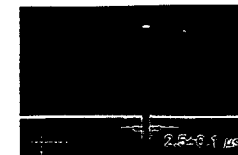

Fig. 3-4
- (1) Connect an oscilloscope to TP-1 on BC BOARD.
- (2) Adjust R46 (CP WIDTH) so that the width is $2.5 \pm 0.1 \mu$ s as shown in Fig. 3-4.